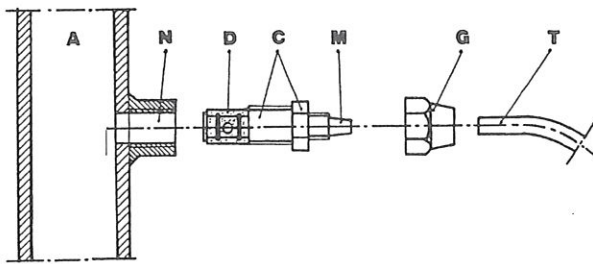

Fig. 9
- g. - Select the most appropriate injection point on a pipe of the plant to be treated and there fit a 3/8" female steel gas thread connector (similar to BSPm). This connector is not supplied with the pump. Screw the injection valve to the gas connector, inserting a gasket as shown in Fig. 9. Then connect the discharge hose to the conical connector on the injection valve and fix it with the supplied tube nut G. The injection valve also acts as no return valve by means of a cilinder sleeve (elastomer, standard supplied in Viton).
3" INJECTION VALVE INSTALLATION DIAGRAM Fig. 9